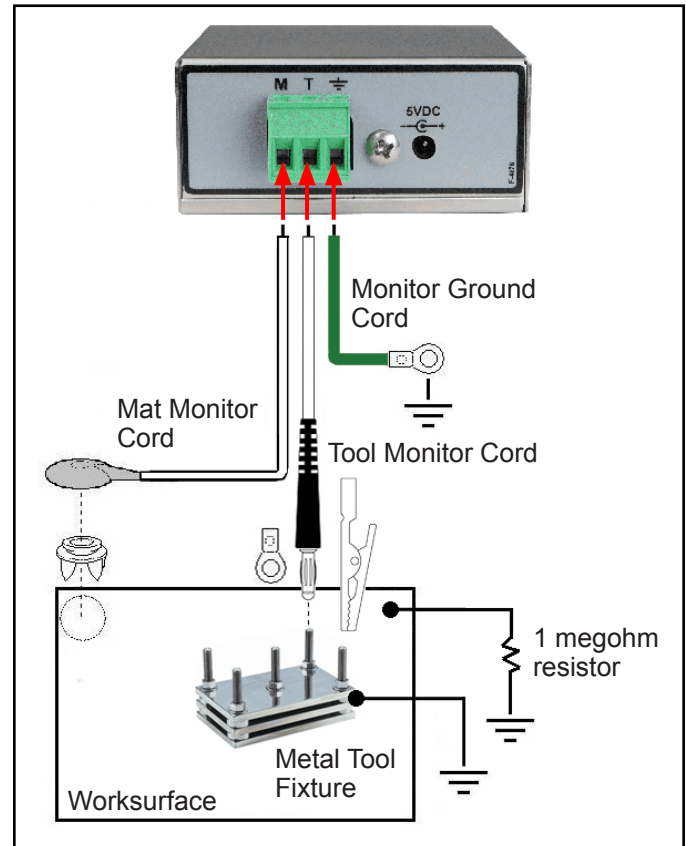
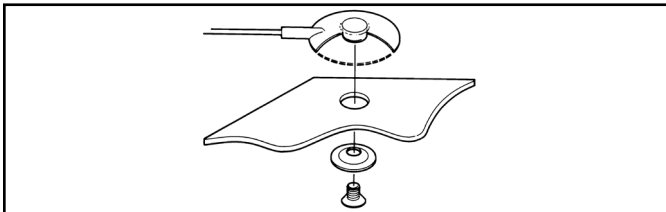

Figure 3. Installing the Body Voltage Monitor
Figure 5. Screw allows ground cord to be bolted to mat to keep cord from disconnecting
4. Route the mat monitor cord from the back of the monitor to the worksurface mat. Use either the included push and clinch snap or washer and screw to secure the cord to the mat (see Figure 5). The worksurface mat requires its ground cord to have an embedded 1 megohm resistor such as the Vermason 231280 (see Figure 3).